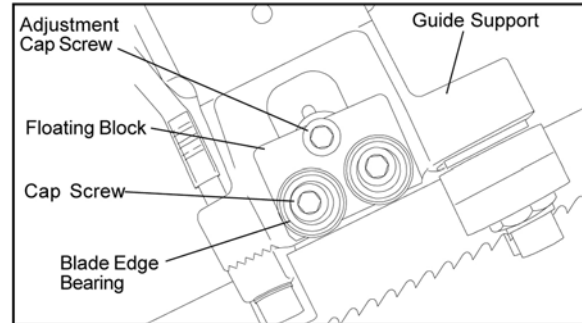

Figure 18: Blade edge bearing replacement
7. Adjust the bearings on the upper edge of the blade until they just contact the blade (see Figure 18).
1. Remove the capscrew from the blade edge bearing being replaced and discard the bearing. Be careful not to lose the spring washer that separates the bearing from the floating block (see Figure 18).